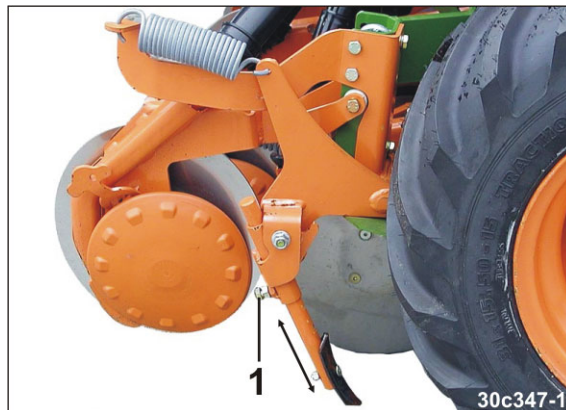

Fig. 182
- 1.1 Unscrew the screw (Fig. 182/1).